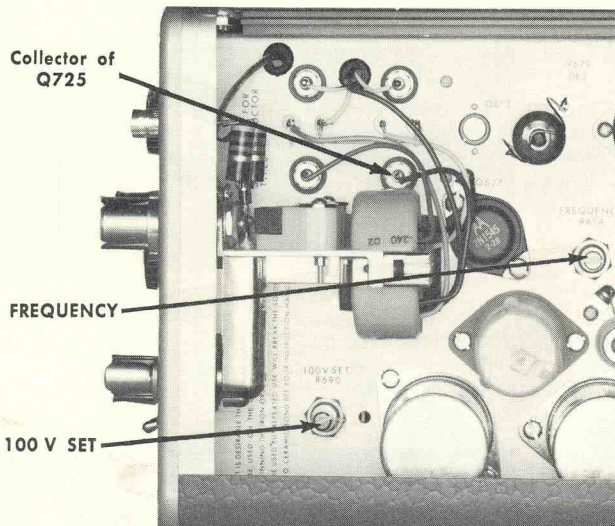
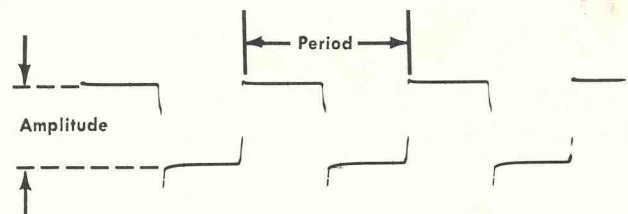

Fig. 6-4. Right side view, front portion of the Type 109, showing the location of the internal adjustments and the test point.
Fig. 6-5. Waveform measuring points.
- f. Adjust the 100 V SET control (see Fig. 6-4) to obtain a reading of exactly 100 volts.
- First, rotate the FREQUENCY control (see Fig. 6-4) fully clockwise and check the waveform according to the data given in Table 6-3 and Fig. 6-5. (Use the graticule markings on your test oscilloscope to determine the period and amplitude of the waveform.)
(1) Fully clockwise	2.77 cm or less	360 cps or more	18 volts
(2) Fully counter clockwise	3.6 cm or more	275 cps or less	12 volts
- Then, rotate the FREQUENCY control fully counter-clockwise and check the minimum frequency range based on the information given in Table 6-3 and Fig. 6-5.